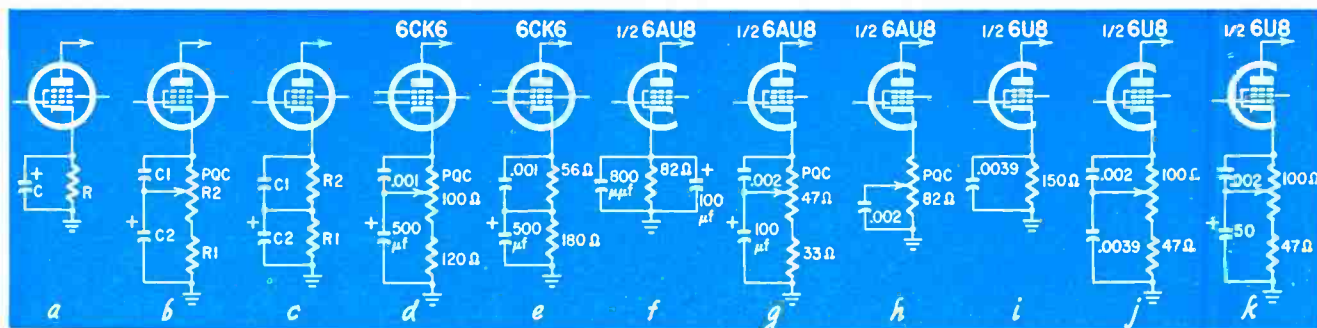
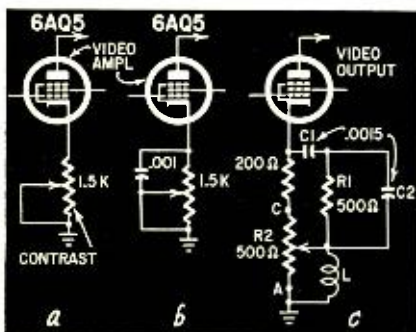

Fig. 1—PQC through cathode feedback.
Fig. 2—Evolution of a PQC circuit.
of a few hundred ohms shunted by a large-value electrolytic capacitor (C) (see Fig. 1-a). When the PQC is included, the circuit looks like Fig. 1-b. The dc cathode bias is provided by resistor R1 and potentiometer R2 in series, the total value of (R1 + R2) being equal to R in Fig. 1-a. The high-value electrolytic capacitor C2 is connected between slider and ground, and a small-value additional capacitor C1 is connected between slider and cathode. When the slider is at the cathode end of R2, the circuit is exactly equivalent to Fig. 1-a and the video response curve is undisturbed. When the slider is at the low end of R2, there is cathode negative feedback which reduces the tube's overall gain. However, R2 is shunted by C1, and the value of this capacitor is such that it practically short-circuits R2 for the highest frequencies of the video spectrum, thus suppressing feedback and insuring full gain of the tube at high frequencies.
If the PQC is not going to be manually controlled, replace R2 with a fixed resistor of the same value, as in Fig. 1-c. This circuit appears in a number of forms in many television receivers, where it is used as part of the video amplifier compensation system to obtain a flat response curve. The purpose of the PQC is different, as we have seen previously. Note that adjusting the PQC does not modify the overall gain for low and medium frequencies. A practical circuit, used in the French *Opera* receivers, is shown in Fig. 1-d.
In some models, the same manufacturer uses a fixed PQC as in Fig. 1-e. Here again, the value of the small capacitor should be .002 μ f for the American standard. This circuit is easy to add to an existing receiver, keeping in mind that the total cathode resistance should be the same as the original value. As there is also a slight reduction in video gain the receiver must have some reserve in this respect. This, however, is never bothersome, for the PQC would hardly be installed in marginal cases.
The circuit of Fig. 1-b has been tried on a G-E 17T025 receiver. The original diagram is given in Fig. 1-f, and the modified version in Fig. 1-g. The existing cathode resistor may have a low value, say less than 100 ohms. If this is so, the resistor can be entirely replaced by a potentiometer. This has been done in the G-E receiver, as in Fig. 1-h, with better results. A certain amount of parasitic wiring capacitance is unavoidable, but it does not hinder circuit action. Sometimes it can be made part of the correcting capacitor.
It may turn out that the cathode resistor is shunted by a low-value capacitor as part of the correcting network. This happens in the first video amplifier of a Philco 7L70 represented in Fig. 1-i. There are two possible solutions. Either the existing capacitor is used across the fixed resistor (Fig. 1-j) or it is replaced by an electrolytic capacitor (Fig. 1-k). The latter circuit gives a better range of control. Note that this PQC provides for an increase and decrease of high-frequency gain.
A number of receivers use cathode feedback or cathode bias as a contrast control. Simple modifications let you add PQC to such receivers. Moreover, most circuits lend themselves to the installation of automatic PQC. Take the already cited Philco 7L70 as an example. Its second video amplifier uses a 6AQ5 with contrast control in the cathode, as in Fig. 2-a. The simple
addition of a .001- μ f capacitor (Fig. 2-b) introduces automatic PQC. For distant stations and low-level signals, where high-frequency boosting is undesirable, the slider is at or near the cathode end for maximum gain. This effectively puts the capacitor across a low-value resistance and its effect is small. For local stations and high-level signals, when the picture can stand high-frequency boosting, the slider is at or near ground, the capacitor is connected across a high-value resistance and its effect is maximum. Thus the amount of PQC increases automatically with the level of the received signal.
More sophisticated circuits can be devised. An example is given in Fig. 2-c. It represents the video output stage of a German Loewe-Opta model. Neglecting L for the time being, the circuit is similar to Fig. 1-b, except that C1 has been replaced by R1, C1, C2 to obtain a more progressive effect. However, inductor L is also included in the cathode circuit. As its impedance increases with frequency, the cathode feedback increases and the gain decreases for the high frequencies of the video spectrum. Its effect is exactly opposite to that of a capacitor.